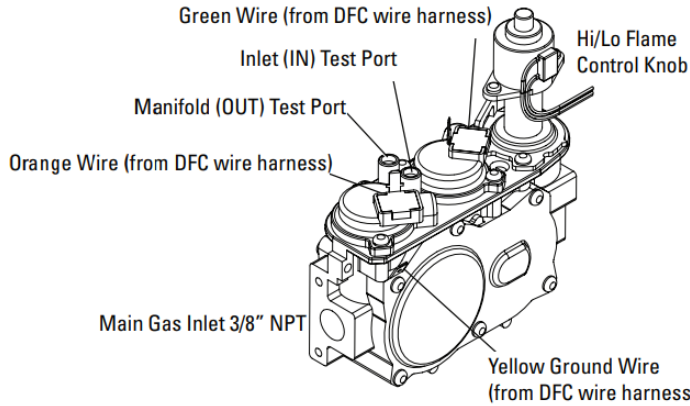

FIGURE 37
- 11) Plug the spade connectors into the module according to the below wiring diagram **(Figures 37 & 38)**, insert the pilot tubing into the right side of the valve and, using a wrench, tighten the nut so that the pilot tubing cannot be pulled out.